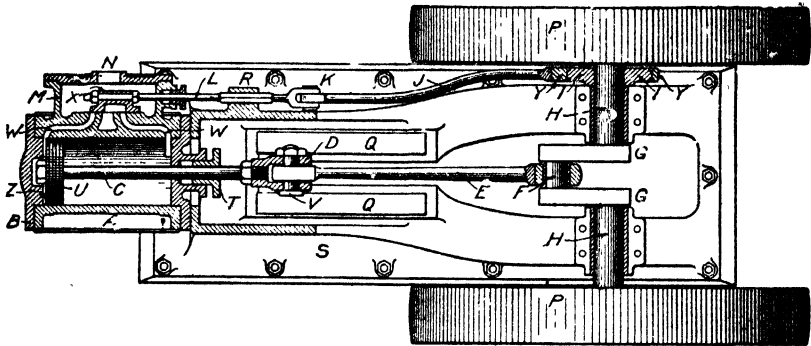

Fig. 9. Plan View of Typical Stationary Engine
**General Details of Steam Engine Parts.** In Fig. 9 a plan view of a stationary steam engine is given, with the cylinder and valve chest shown in cross section, and with the various parts marked by letters. A view of a stationary engine is used because it is not so condensed as an automobile engine, and the parts are therefore easier to mark and pick out. The relations and names of parts are the same in an automobile engine.